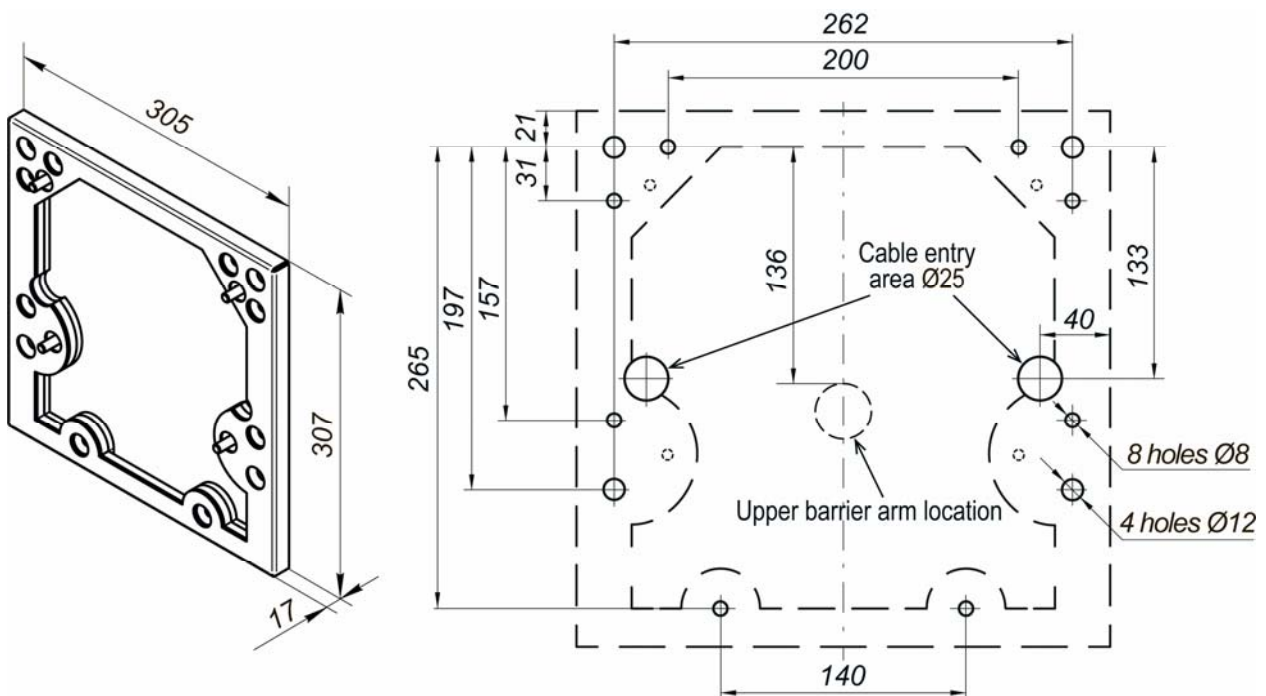

Figure 15. Dimensions and layout of holes on the wall for fixing the MT10.2 bracket
b. Installation procedure for the **MT10.2** mounting bracket (**TTR-10AK** modification) (Fig. 15):